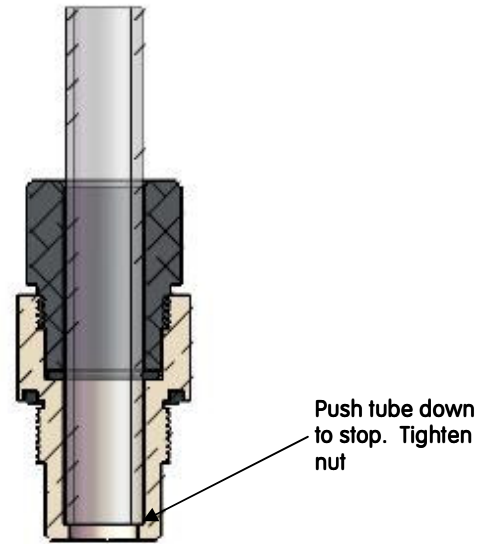

Figure 3.
When connecting vacuum tubing to the lids of resin traps, manifolds and molds, it is usually desirable for the tubing to stop just below the underside of the resin trap lid, or just at the mold surface. This is achieved in the standard Vacmobile fitting with a small shoulder provided at the base of the gland body. Refer to Figure 3 on the following page. To use the fitting with the internal stop:
5. Insert the squarely cut tube and push it past the moderate resistance of the O-ring until the tube clearly hits the internal stop. Refer to figure 3.